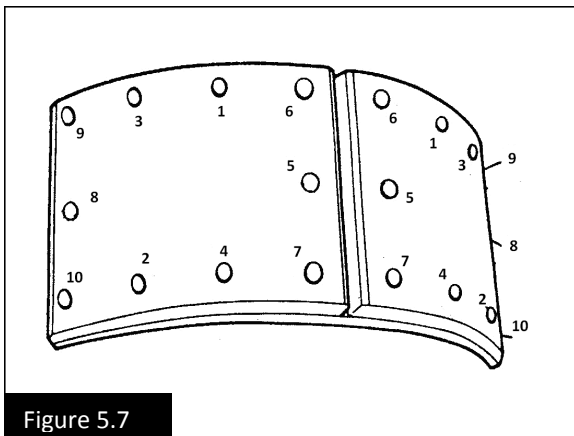

Figure 5.7
14. During relining, make sure the contact surfaces of shoe and lining are clean. Install the rivets in the sequence shown in the fig 5.7.